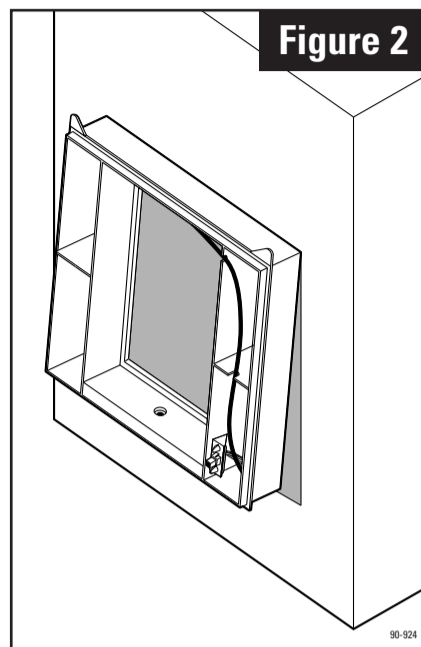

Figure 2
3. Position the two plastic hooks on the top of base along the top edge of the plenum opening. Push base up to engage the two hooks and sheet metal along the top edge opening. Push base in and slide down so that the bottom four hooks engage the sheet metal at the bottom edge of the opening. Secure base to opening using top three screw holes in housing. An additional hole is provided at the bottom for securing the base to the plenum. (See Figure 2)